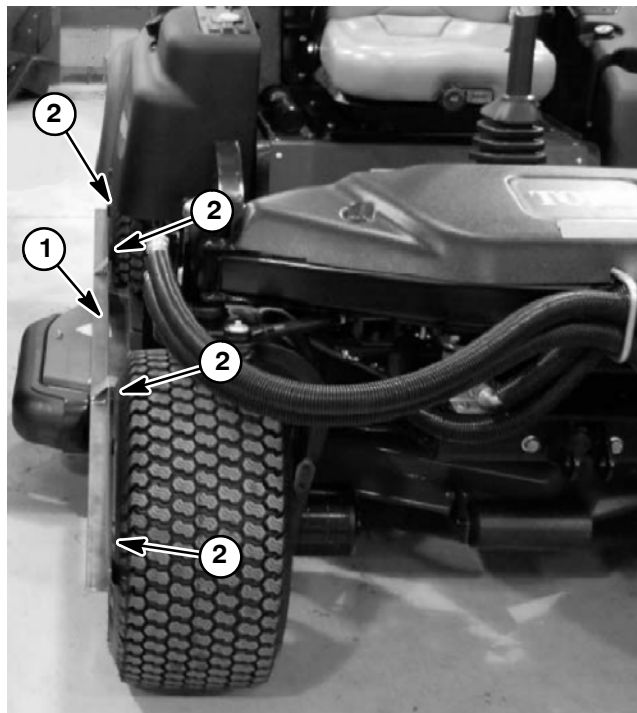

Figure 20
Before performing an adjustment to the steering home sensor, make sure that front and rear wheels are aligned in a straight ahead position. A rigid straight edge (e.g. angle iron or metal pipe) at least 80 inches (2 meters) long can be used to confirm wheel alignment. Place the straight edge across the sides of both front and rear tires to confirm wheel alignment. The straight edge should contact both front and rear tires at two (2) points when wheels are aligned (Fig. 20). If necessary, turn steering wheel until front and rear tires are aligned with the straight edge. Once front and rear wheels are aligned, proceed with steering home sensor adjustment.